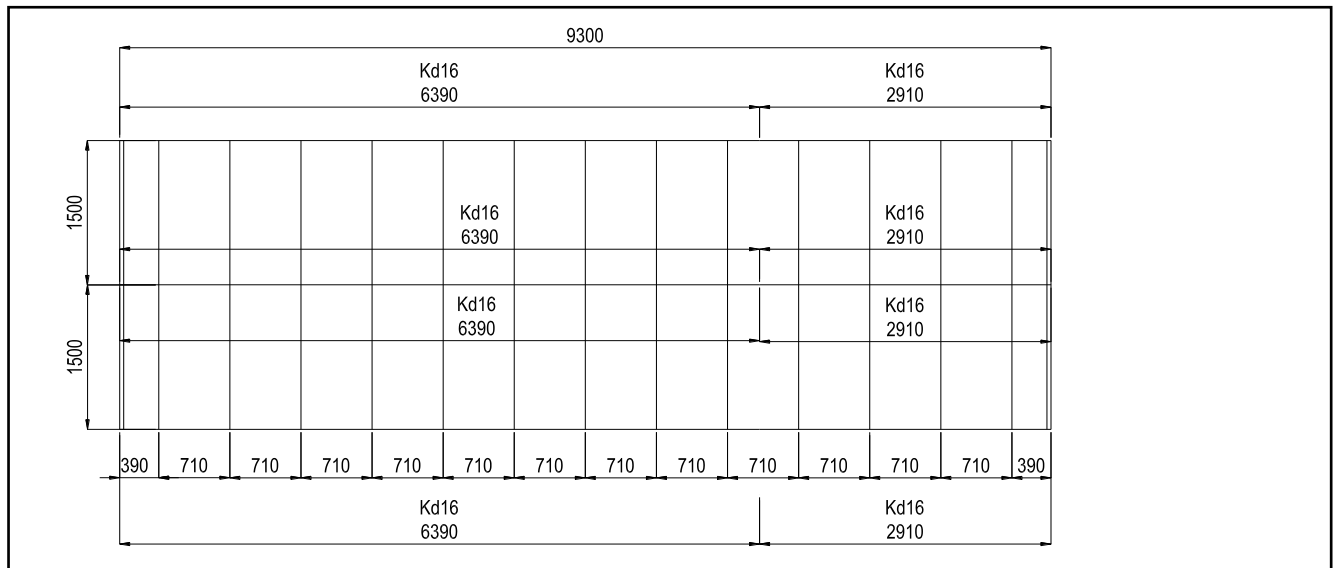

Figure 66 Example layout of the bearing and edge profiles of a dual-pitched rooflight
2. Next, apply PES 40x3 self-adhesive tape along the rooflight base under the edge profiles and the tympanum panel. Once the base has been assembled and insulated, the edge profiles should be fixed to it with  $\varnothing$  6.3x32 mm self-drilling screws spaced at 300-350 mm intervals. The base should be positioned such that there are at least two screws between the tensioning screw holes. The position of the edge profile in relation to the base should be as shown in (Figure 66 Example layout of the bearing and edge profiles of a dual-pitched rooflight). Assembly of edge profiles.